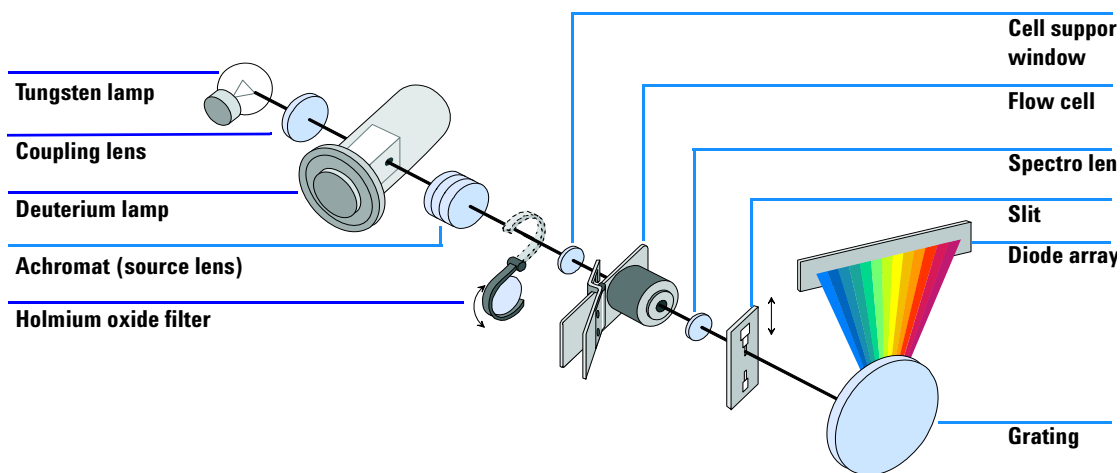

Figure 1 Optical System of the Detector
The optical system of the detector is shown in Figure 1. Its illumination source is a combination of a deuterium-arc-discharge lamp for the ultraviolet (UV) wavelength range and a tungsten lamp for the visible (VIS) and short-wave near-infrared (SWNIR) wavelength range. The image of the filament of the tungsten lamp is focused on the discharge aperture of the deuterium lamp by means of a special rear-access lamp design which allows both light sources to be optically combined and share a common axis to the source lens. The achromat (source lens) forms a single, focused beam of light through the flow cell. Each cell room and lamp are separated by a quartz window which can be cleaned or replaced. In the spectrograph, light is being dispersed onto the diode array by a holographic grating. This allows simultaneous access to all wavelength information